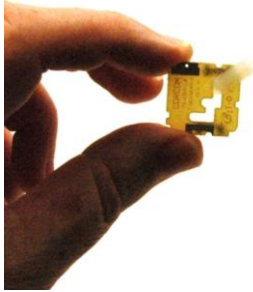
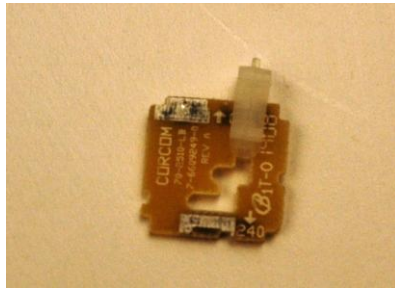

Figure 7
Figure 8
**Step 3:** Rotate the clear plastic guide, as shown in Figure 7, until the guide points down to the 240V label, as shown in Figure 8